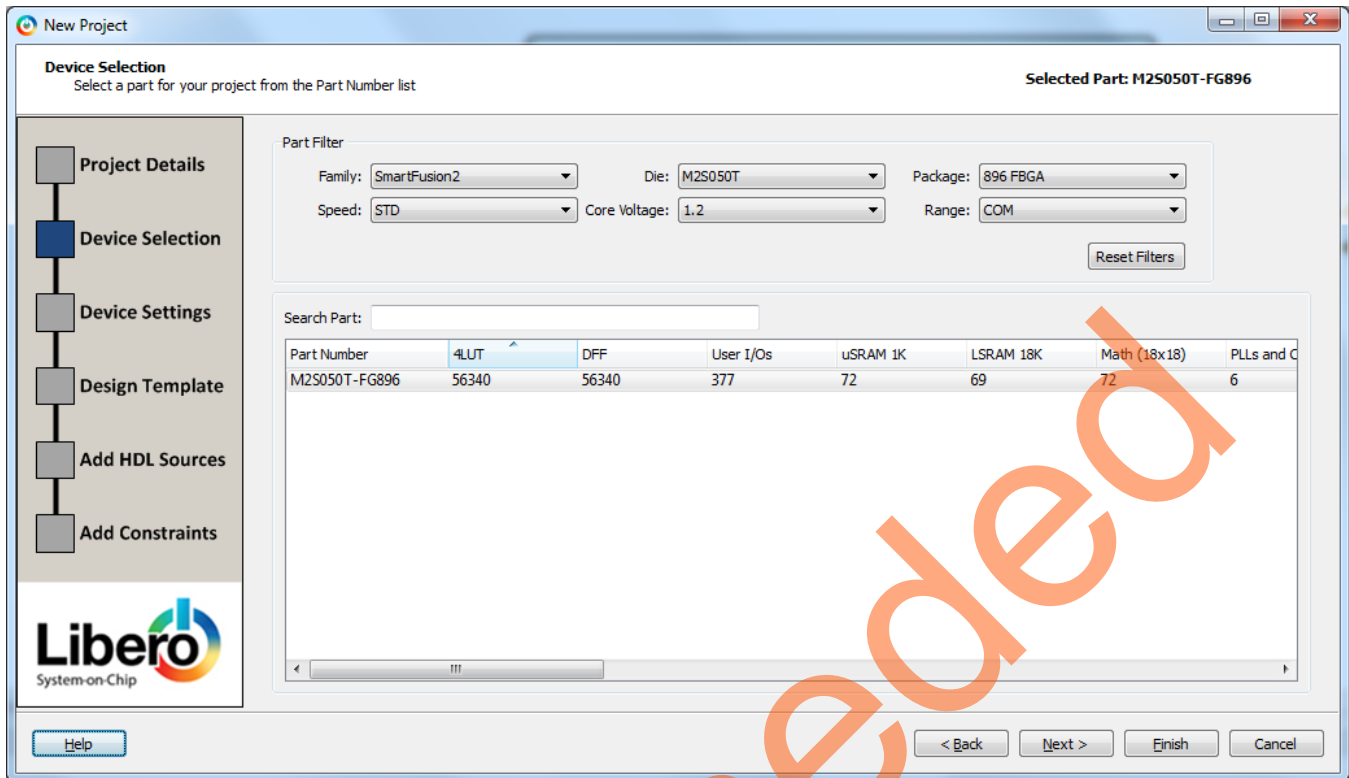

Figure 3. New Project – Device Selection Page
4. Click **Next**. Figure 3 shows the **Device Selection** window, and select the following options from the drop-down lists under Part Filter:
- Core Voltage (V): 1.2